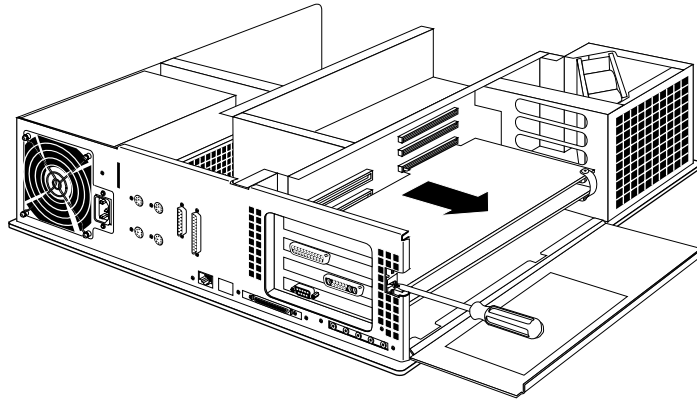

Figure 4-21 Unscrewing the Option Board From the Indigo² IMPACT Chassis
7. Remove the screw attaching the option board to the workstation slot, as shown in Figure 4-21. The screw is located on the metal bracket on the upper left side of the board.